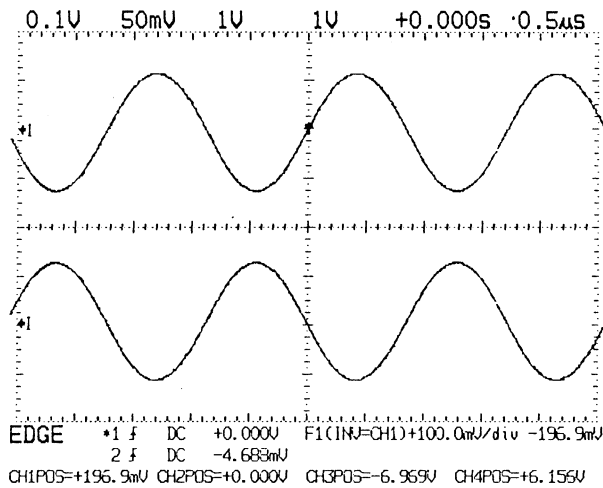

Fig. 6-26 Example of inverted waveform screen
- (c) Press the ENTER key of the MENU section. Then, the menu disappears and the screen shown in Fig. 6-26 is displayed.